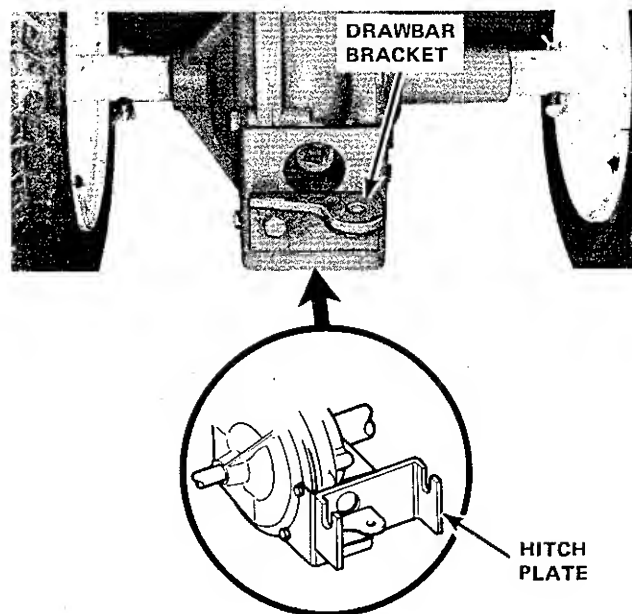

FIGURE 3
5. Remove the drawbar bracket bolts from the rear support plate on the transmission. Place the hitch plate between the drawbar bracket and the support with the notches up. Secure with the 3/8-16 x 1-1/2 in. capscrews, nuts and lockwashers provided. (See Figure 3).